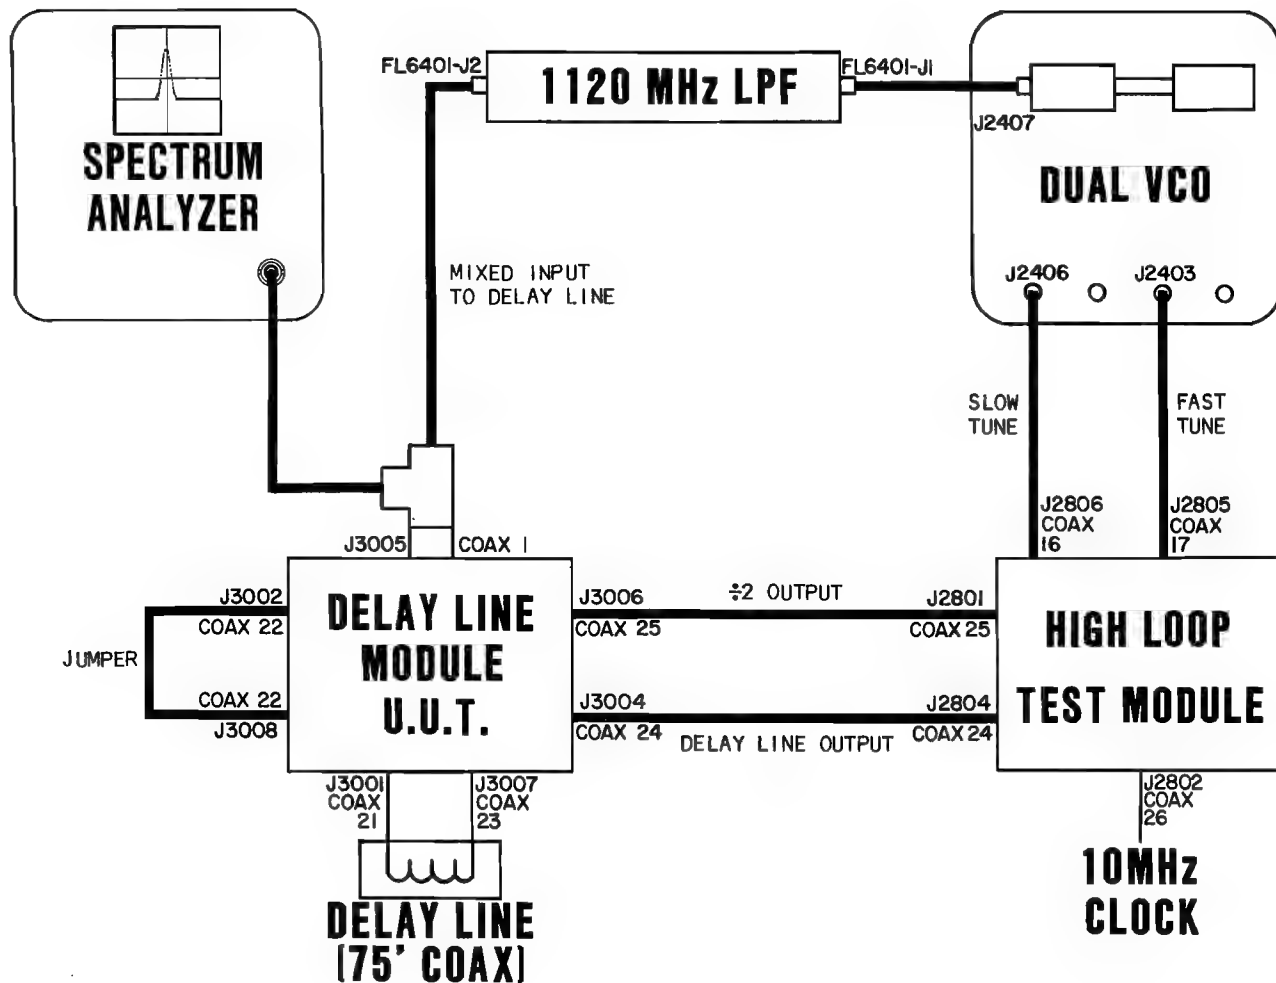

Figure 5-7 High Loop System Test Hookup
17. Connect High Loop System as shown in Figure 5-7. Set LCD to 50 MHz. Disconnect coax from J3004 and verify on Spectrum Analyzer that noise level 100 KHz from the 140 MHz signal jumps up 5dB or more.